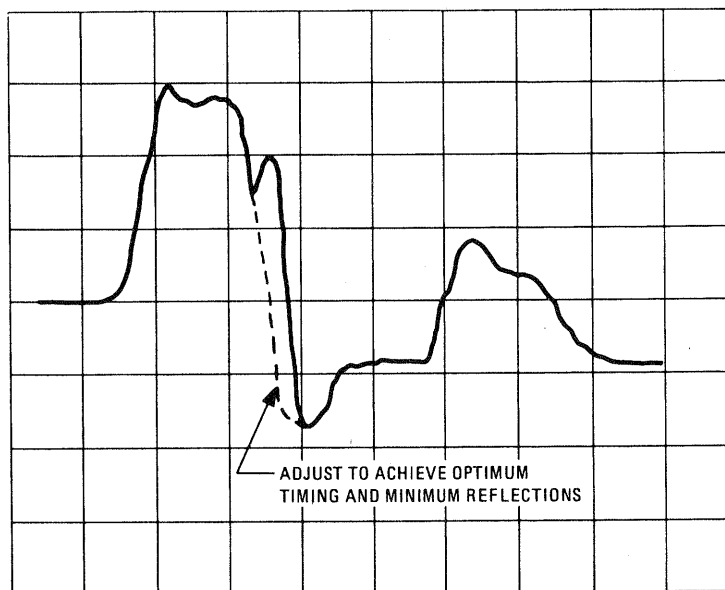

Figure 5-30. Series Pulse Width Waveform
21. Adjust S-PW (A1A4R35) to obtain the waveform shown in Figure 5-30.